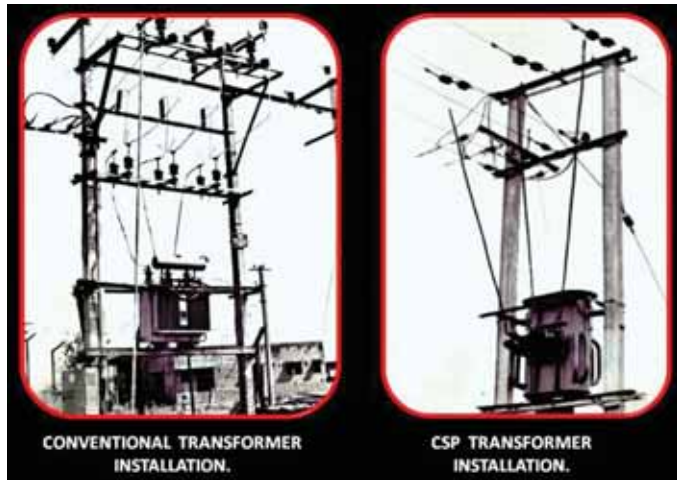

Figure 5
- b) CSP transformer installation presents a much cleaner and uncluttered appearance. (Fig. 5) Unlike the non-CSP transformer installation with individual mounting arrangements for externally fixed protective equipment like primary fuse, surge arrester and secondary circuit breaker and electrical connections between them.